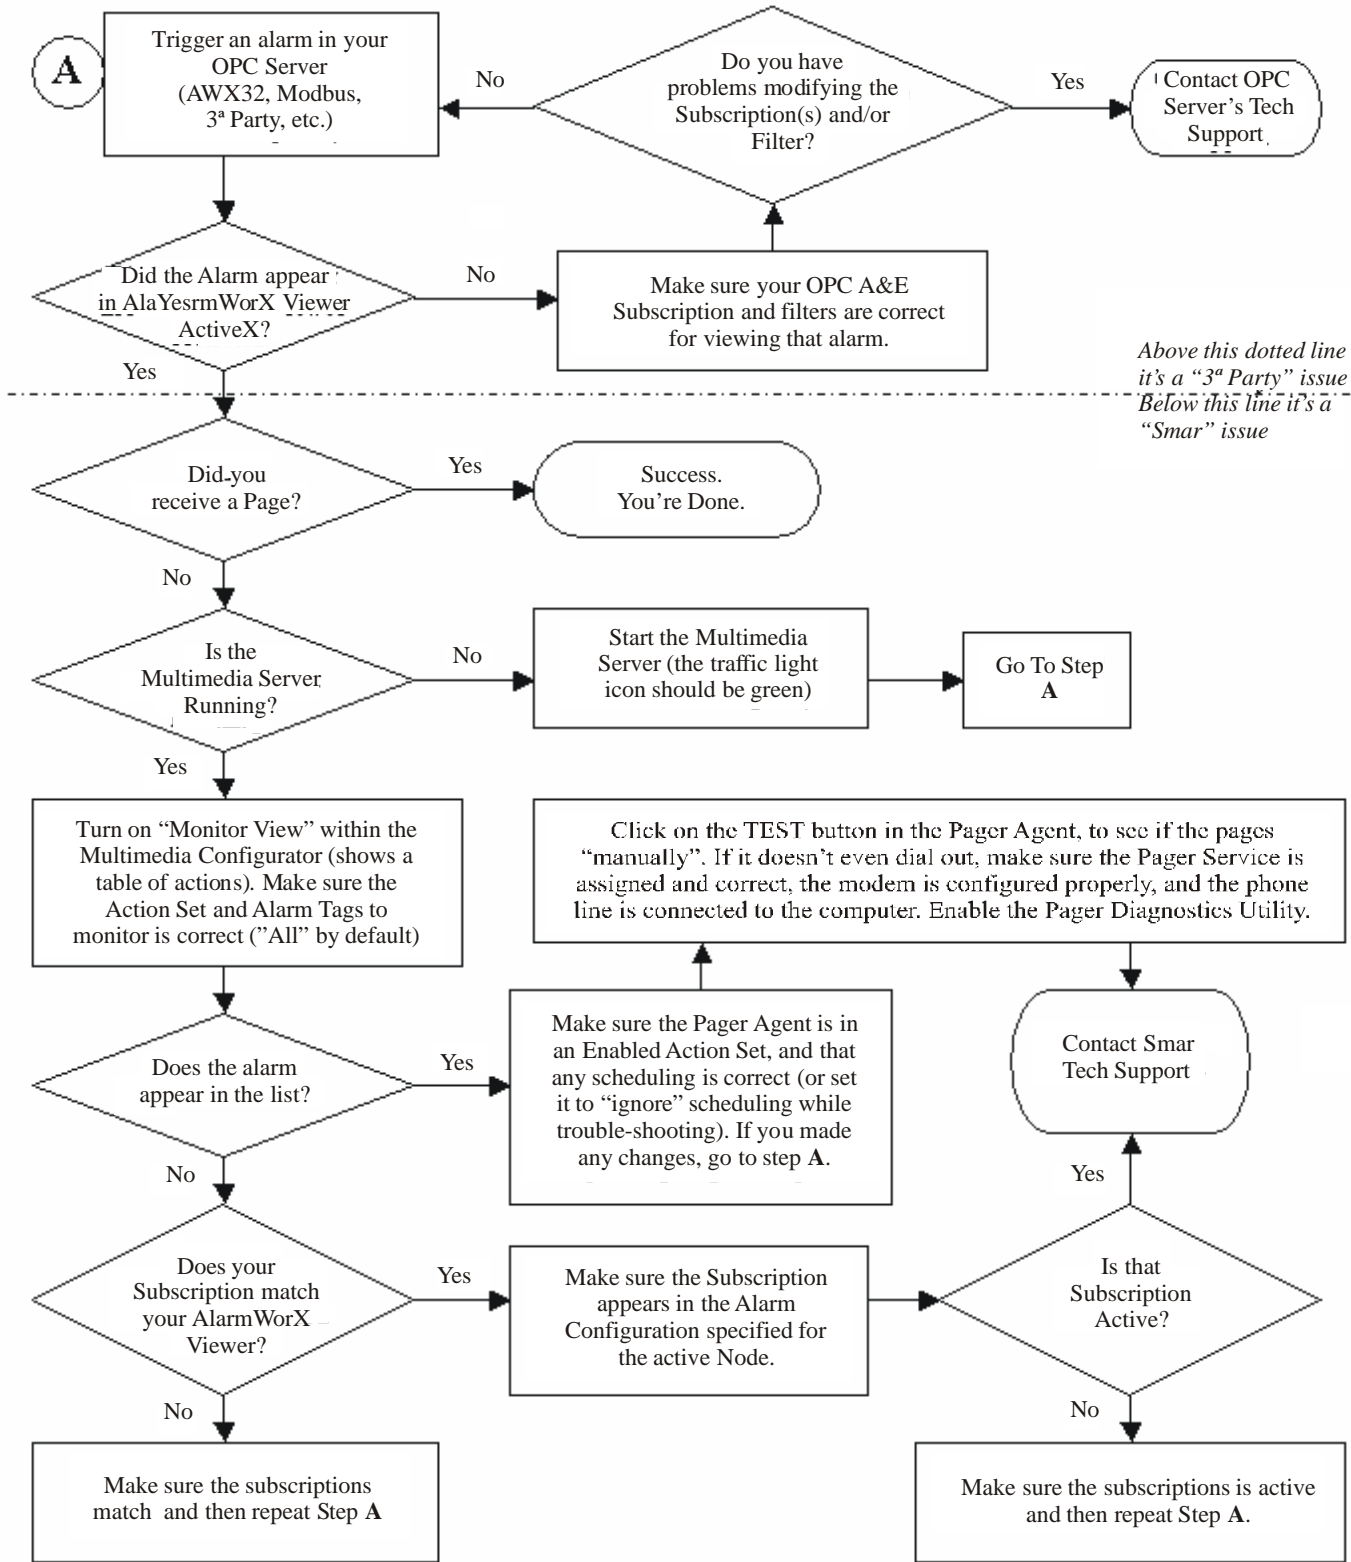

Figure A.48. Troubleshooting Flowchart
2. If the SMAR AlarmWorX Viewer ActiveX window is successfully showing your alarm conditions, the problem probably lies within the configuration of the Multimedia software, and so you should contact the SMAR technical support center. But before you do, please work through the flow chart troubleshooting guide shown in **Figure A.48**.